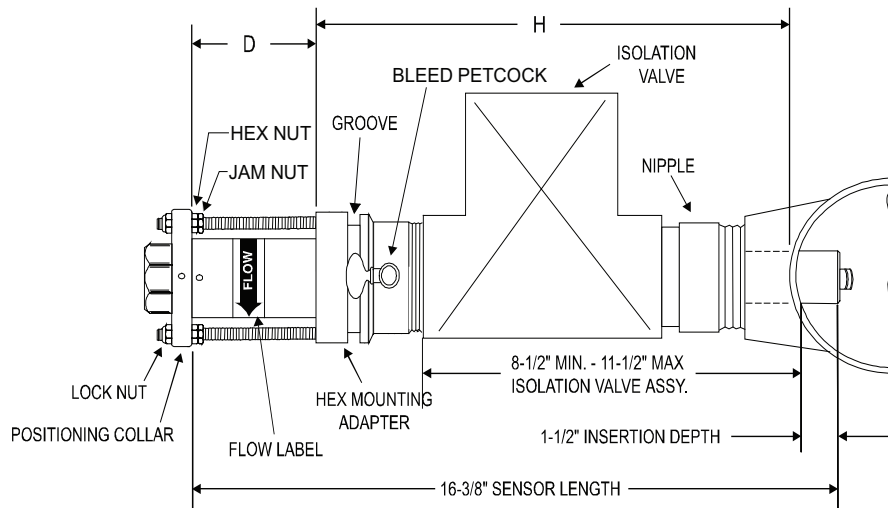

Figure 4: Sensor parts
See Figure 4 for the location or identification of the various parts described in the following procedures.
To calculate the distance (D) between the top of the sensor hex mounting adapter and the bottom of the positioning collar (the top of the hex nut), **ADD** the H dimension, pipe wall thickness, and insertion depth, and **SUBTRACT** the total from the overall sensor length. See the example and formula on the next page, and refer to Figure 4.